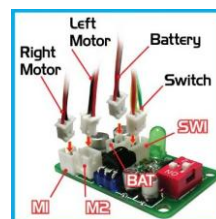

Fig. 11
- iv. Switch - socket "SW1".See Fig. 11.